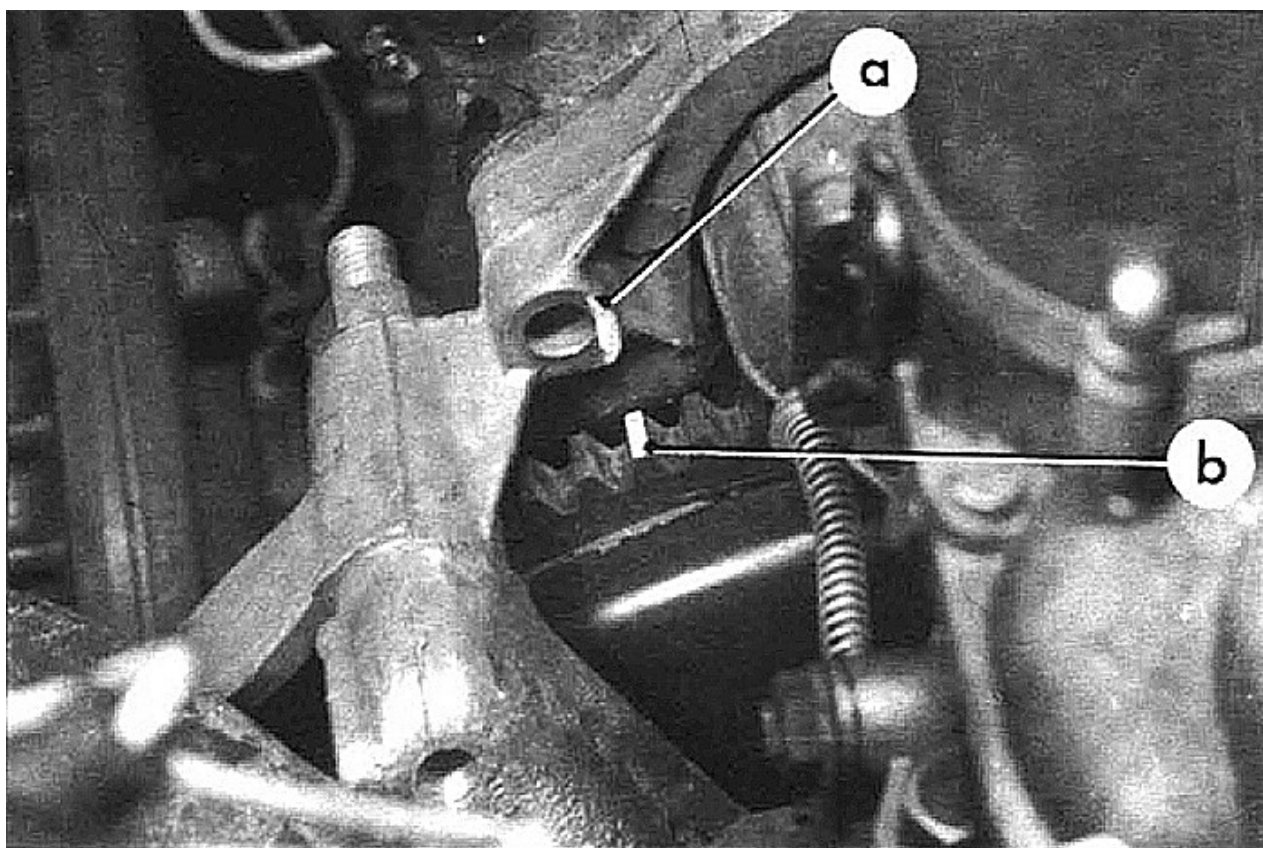

Fig. 1-1. The two painted timing marks on the 2CV engine
Most readers will be familiar with the standard strobe timing light. Its purpose is to generate a bright flash at the moment the engine's number one cylinder spark plug fires, allowing the ignition timing point (crankshaft angle with respect to top dead centre) to be checked/set. The engine manufacturer specifies the spark plug firing angle with respect to the crankshaft's top dead centre position. *Although this article applies in principle to all vehicles*, the Citroen 2CV is used as an example. For the 2CV, the required timing marks have to be established by locking the flywheel at 8° BTDC (before top dead centre) with a 6 mm pin, then painting two white marks which are aligned: one mark on a visible flywheel tooth and the other on the adjacent gearbox casing at a point which lines up with the marked flywheel tooth. (Refer to the Engine section in the writer's article, 2CV Maintenance - Part 1 of 2 for further information on setting engine timing.) See Fig. 1-1 below which shows the two marks painted on the 2CV.
After removing the timing pin, start the engine and set the idle speed to 800 - 850 RPM. The engine timing is adjusted with the aid of a timing light so the two painted marks are lined up as shown in Fig. 1-1. At that point, the engine idle timing has been set according to Citroën's specifications, where the spark plugs fire at 8° BTDC at idle. **Citroën's 8161 Repair Manual page 56 states "in no circumstances should the advance be less than 8° for the M28/1 engine"**.
1. With the 6 mm timing pin fitted in place, check that the two painted timing marks are clearly visible and in line, per Fig. 1-1.
6. Adjust the ignition timing so the two timing marks are lined up per Fig. 1-1. This sets the engine timing to 8° BTDC at idle.
8. Select Advance Mode on the timing light, then continue to press the increment button until the two timing marks are lined up per Fig. 1-1. The increment button increases the Advance angle on the control panel in 1° steps. Press the decrement button to reduce the Advance angle.